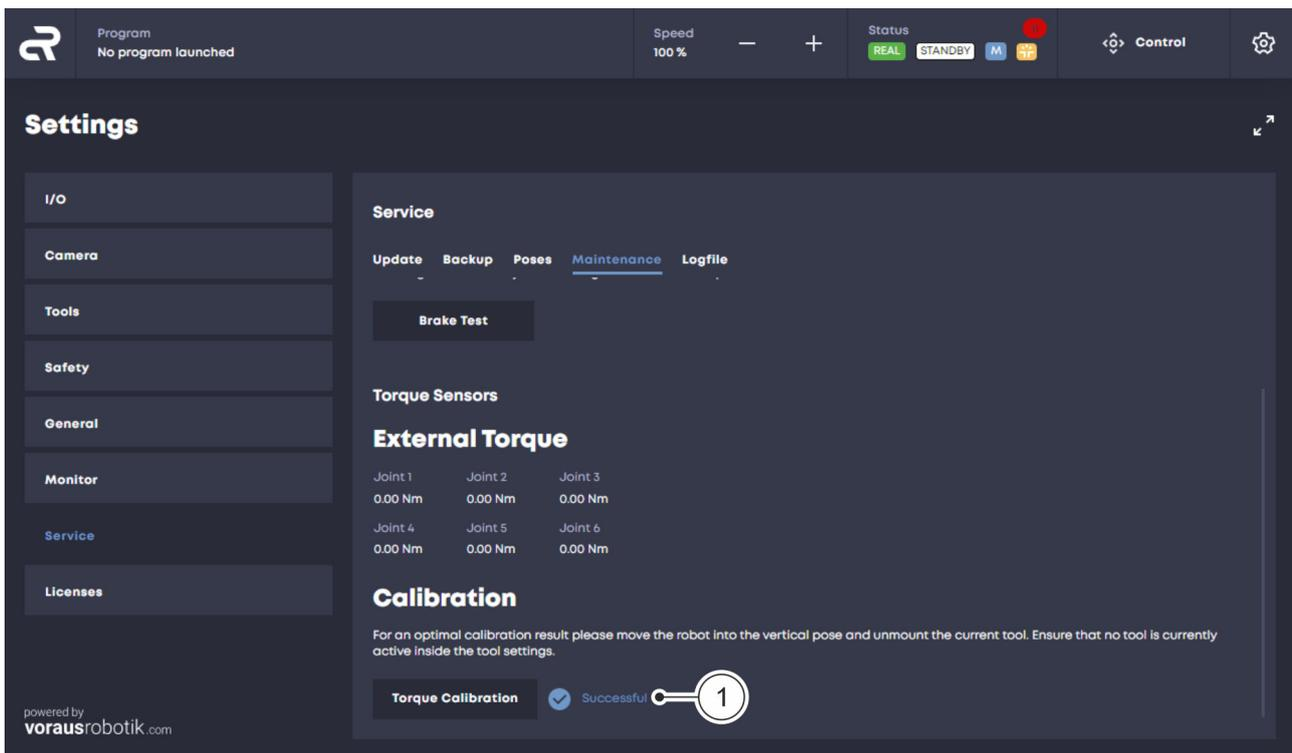

Fig. 56 Calibration successful
- After successful calibration, the text 'Successful' is displayed Fig. 56/①.